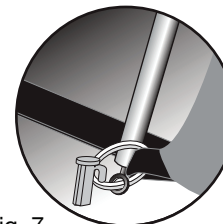

fig. 7
10. **Stake the tent down.** Drive stakes to capture the rings at the base of each pole. See fig. 7. Stake one corner, pull the fabric taut, dressing out the floor as you work your way around the tent.